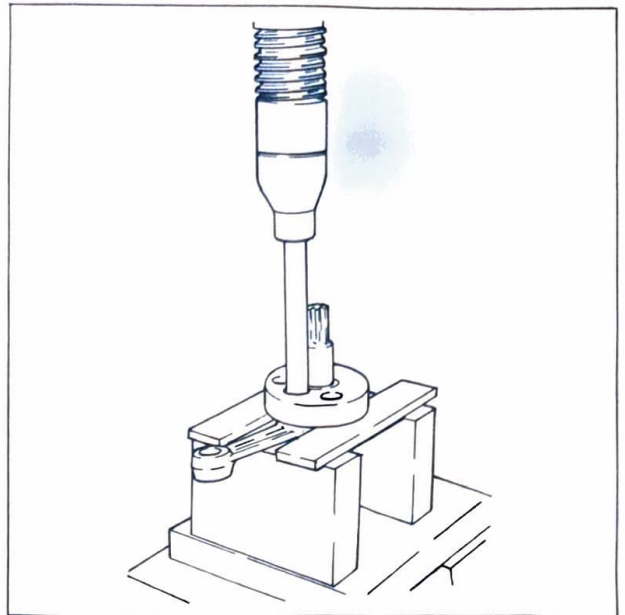

Fig. 3-134
6. Remove the crank pin in the manner as shown in Fig. 3-134. (For this purpose, use the jigs as shown in Fig. 3-2.)